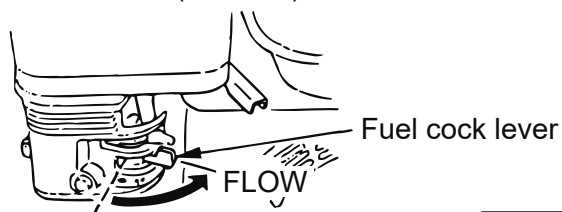

Fig. 13
1. Turn the lever of the fuel cock downward and feed fuel. (Figs.13)